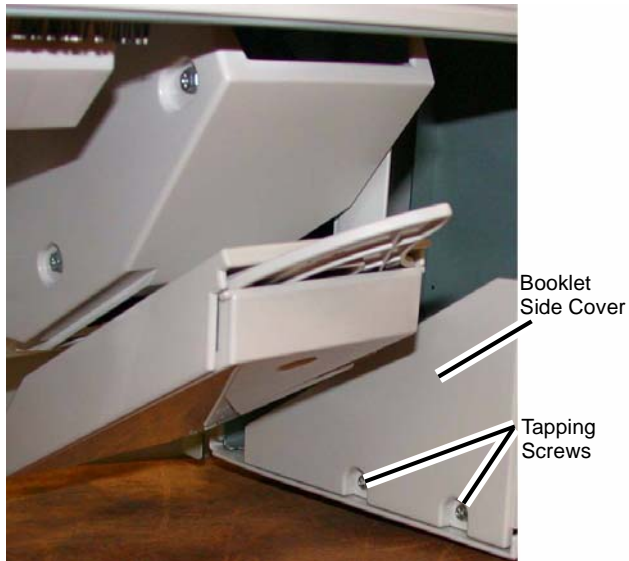

Figure 1 Removing the Booklet Side Cover
- (1) Remove the Self-tapping Screws (2) (Figure 1).
- (2) Remove the Booklet Side Cover.